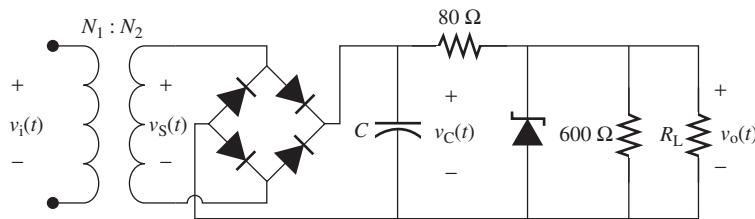

FIGURE P8.32 Circuit for Problem 8.32.
- 8.32** (H) A transformer has 200 turns of coil at its input stage and 50 turns of coil at its output stage. A voltage regulator is connected to the transformer (see Figure P8.32) to drive the load, $R_L = 300$ Ω. Given that the transformer is connected to a source, $V_S = 120 \sin(100t+60^\circ)$ V, and the Zener voltage is 5 V, determine the capacitance required in the voltage regulator to meet the design requirements.